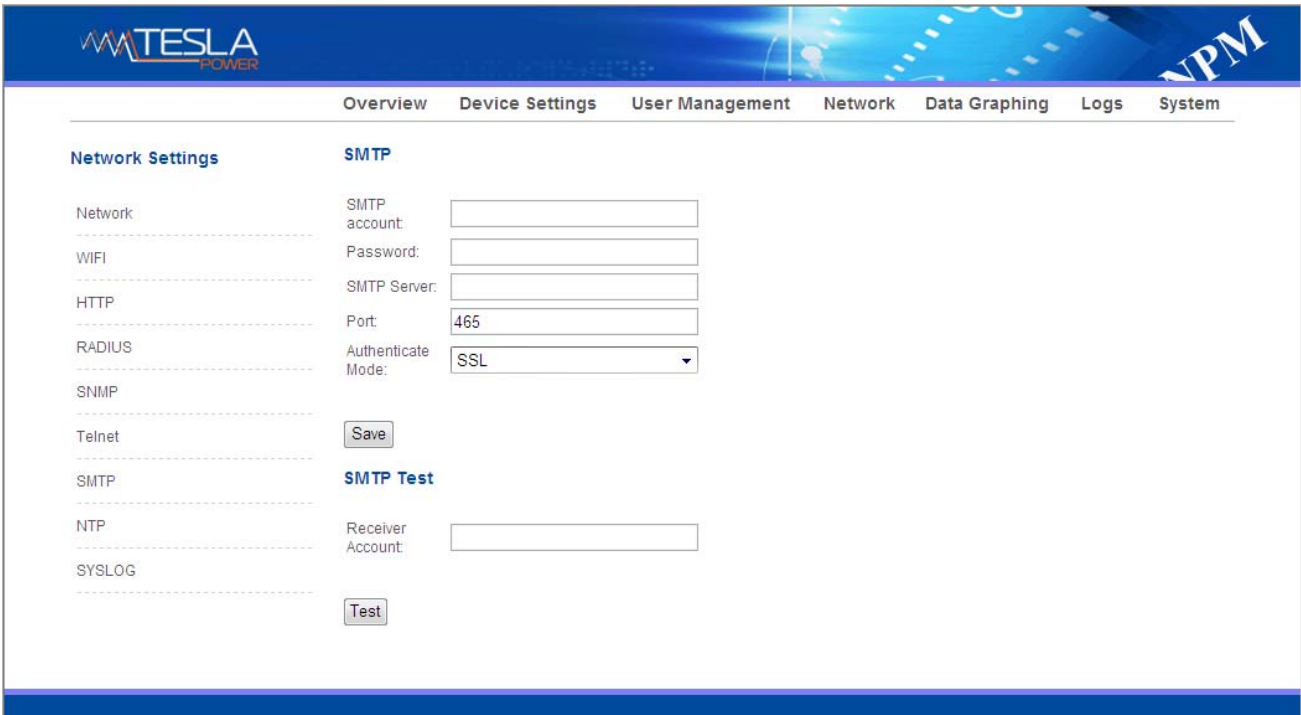

Figure 1-11
G. SMTP: Click SMTP from the network setting tap to enter the SMTP setting as figure 1-11.